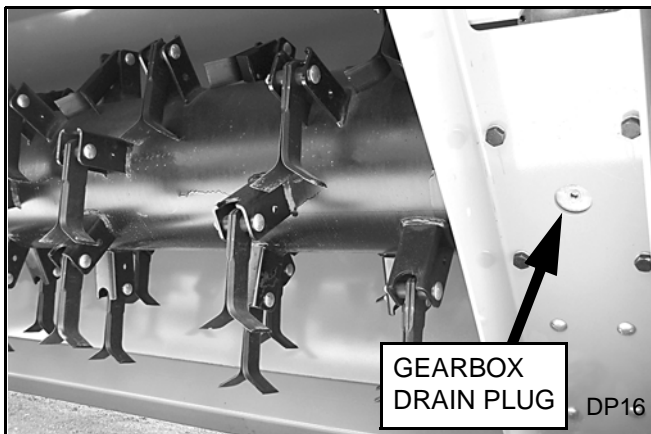

Figure 35. Drain Plug (Underside of Unit)
5. Place a pan under drain plug. Remove drain plug and dipstick plug (see Figure 35).